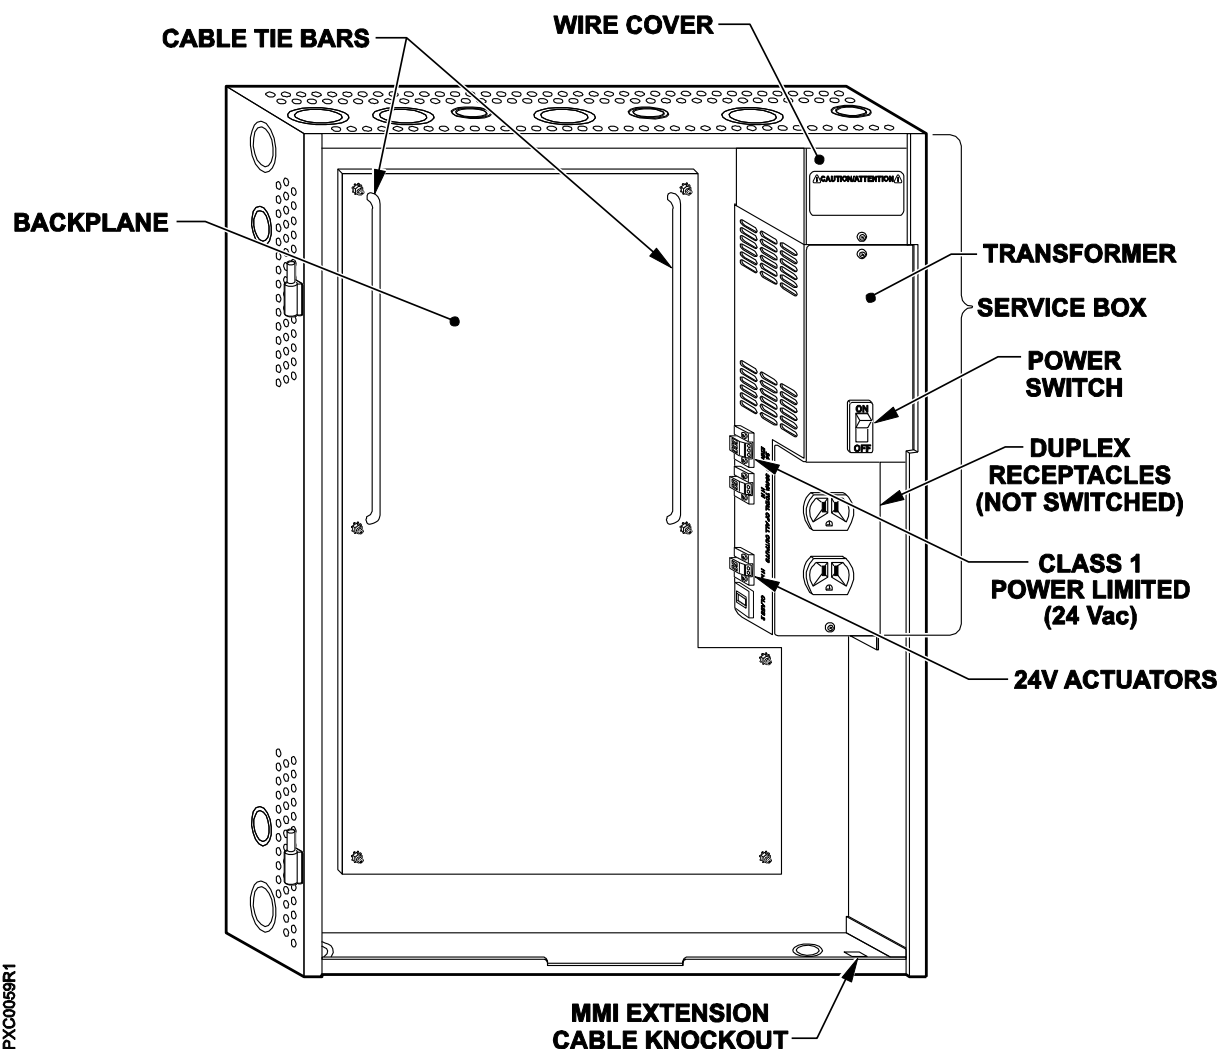
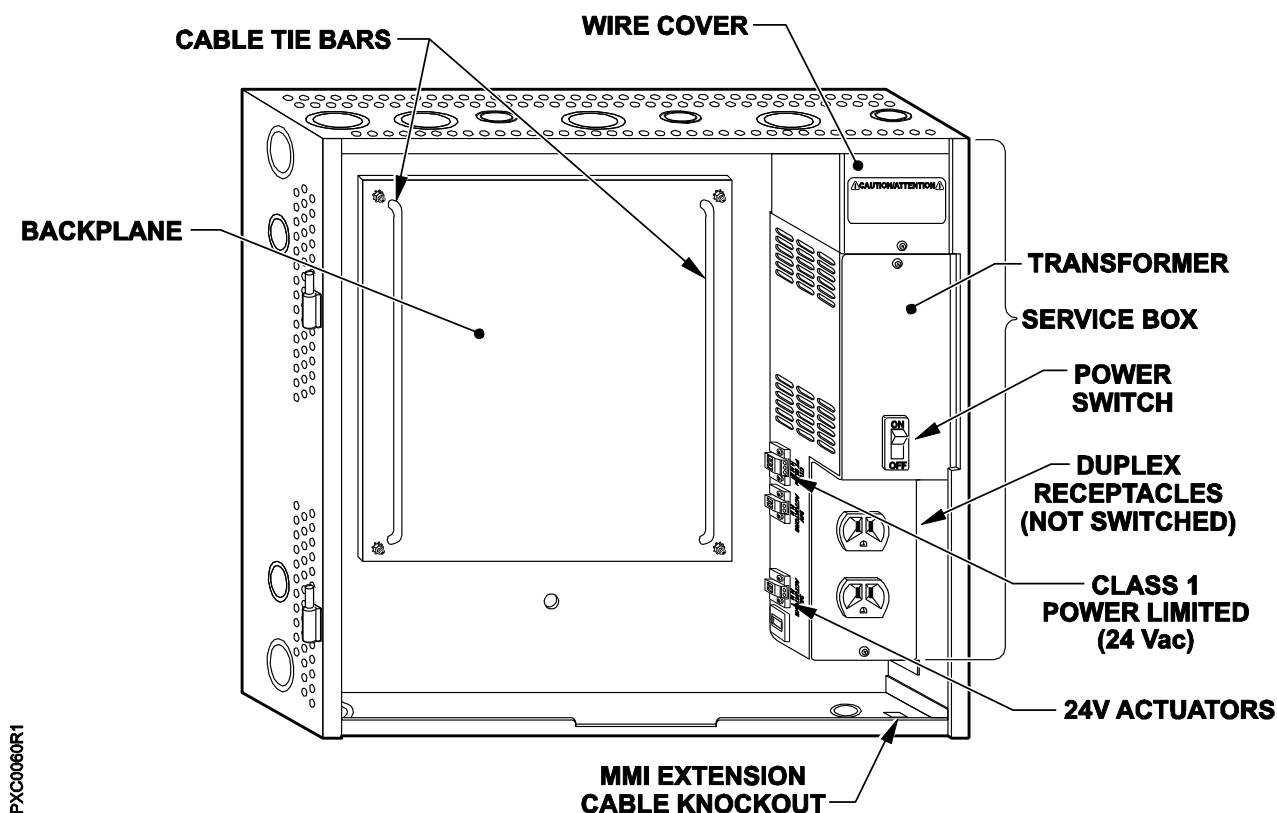

Figure 1. Placement of the 384 VA Service Box in a 34 inch PX Series Enclosure.
Figure 3. Placement of the 192 VA Service Box in a 19 inch PX Series Enclosure.
2. Place the service box in the right side of the enclosure. See Figure 1 and Figure 3.